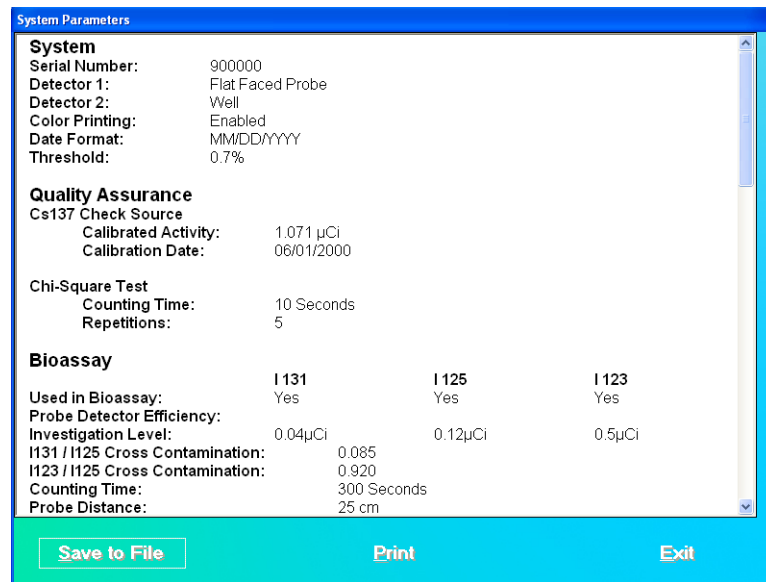

Figure 5-27
1. Click the **View System Parameters** button or press *Alt+P* on Figure 5-1 Quality Assurance Main Screen. The screen appears similar to that shown in Figure 5-27. You may scroll down to see all of the parameters. The system details appear at the top followed by the Quality Assurance parameters. Below that, setup values are listed for each type of procedure.